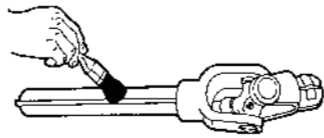

Fig. 9
- 3 Driveline - Disconnect driveline and separate sections. Apply grease to male tube. Reassemble driveline (Fig. 9).